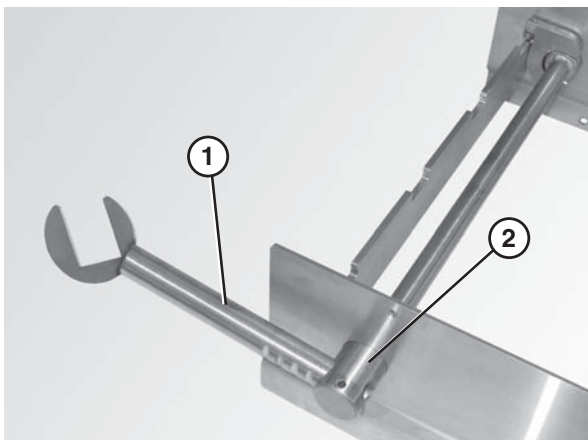

Figure 16
3. Attach the nose bar idler shaft hands (**Figure 16, item 1**) to the tip up shaft (**Figure 16, item 2**).